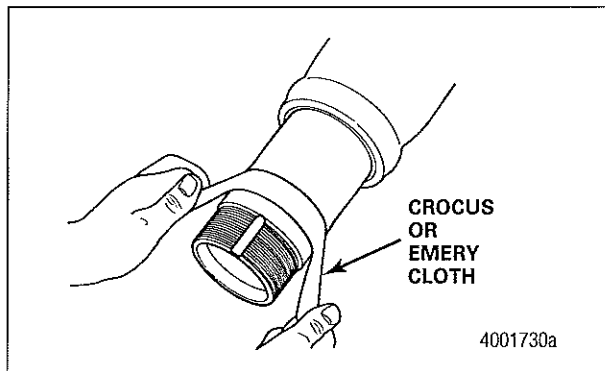

Figure 14
2. Check the axle spindle and seal journal for scratches, nicks or wear marks. Repair them with a crocus or emery cloth. Do not use pneumatic or electric power tools. Figure 14.